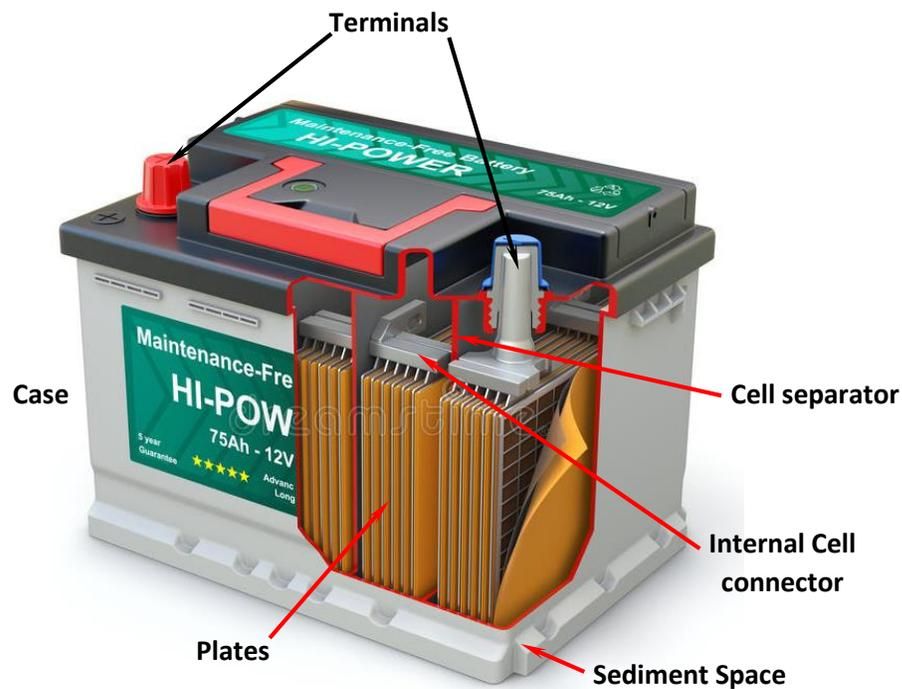

Figure 3.3: Automotive Storage Battery
- 3-22 A **secondary cell** works just like a primary cell, except that it can be recharged. The electrodes and the electrolyte are changed by chemical action as the cell delivers electric current. But these changes can be reversed by sending electric current back into the cell in the opposite direction. An automotive storage battery like the one shown in Figure 3.3, consists of six secondary cells.